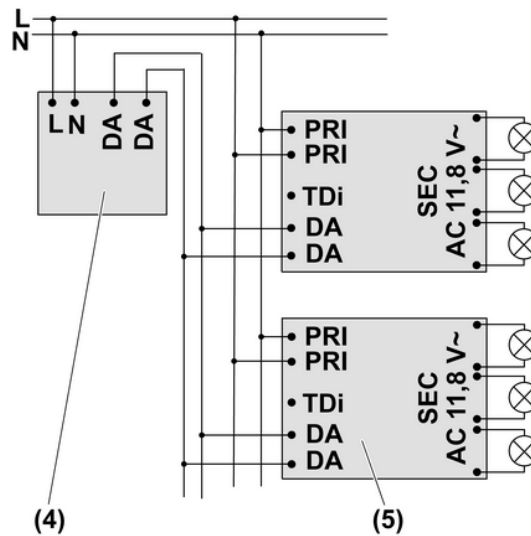

Figure 4: Connection diagram with DALI control unit
- Connect transformer (5) and DALI control unit (4) according to connection diagram (Figure 4).